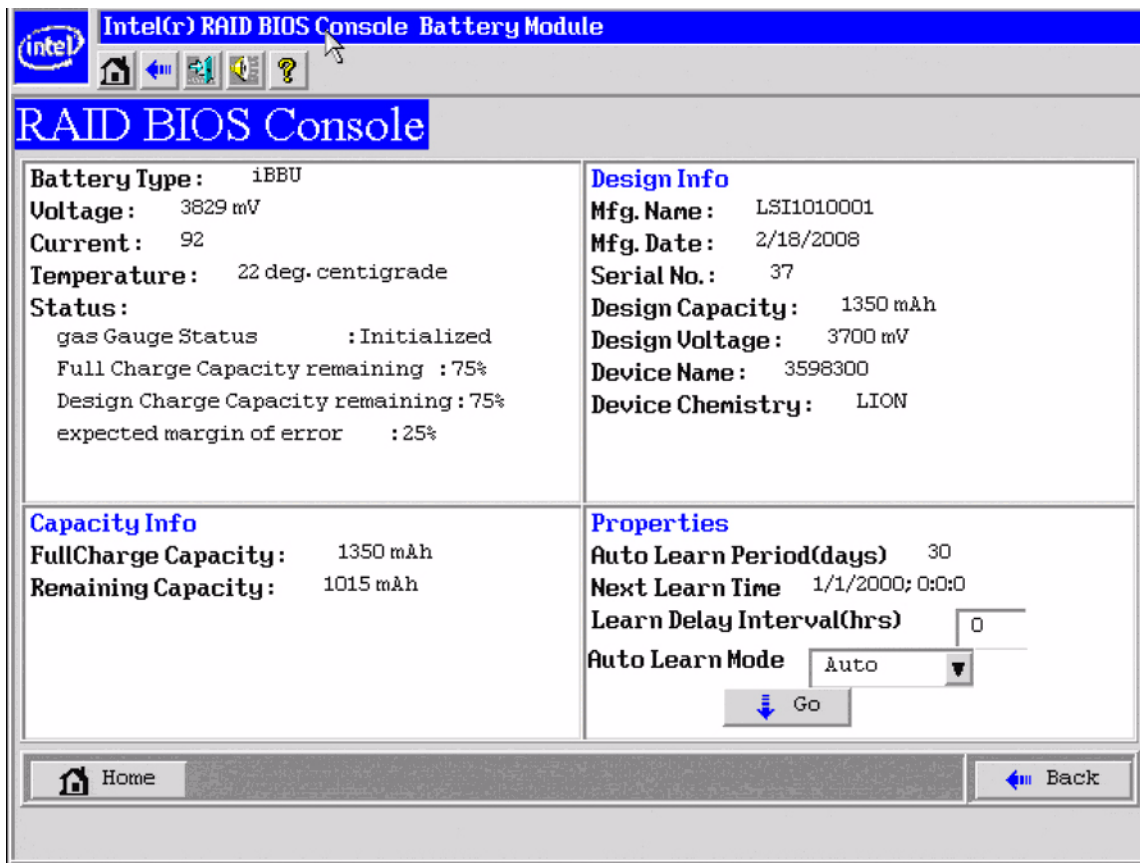

Figure 7. Monitoring the Battery with Intel® RAID BIOS Console
5. The Battery Module screen appears, as shown in Figure 7. This screen contains the following information: